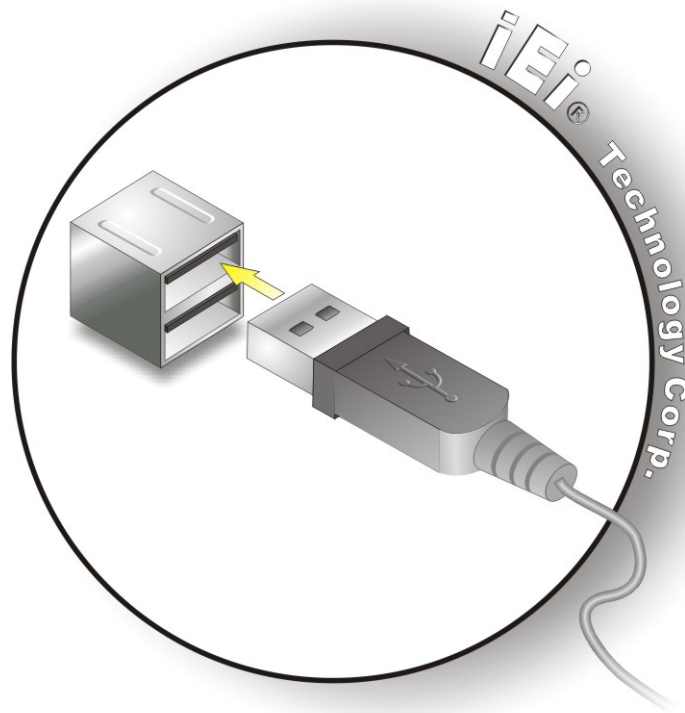

Figure 5-25: USB Connector
Step 2: Insert a USB Series "A" plug. Insert the USB Series "A" plug of a device into the USB Series "A" receptacle on the external peripheral interface. See **Figure 5-25**.